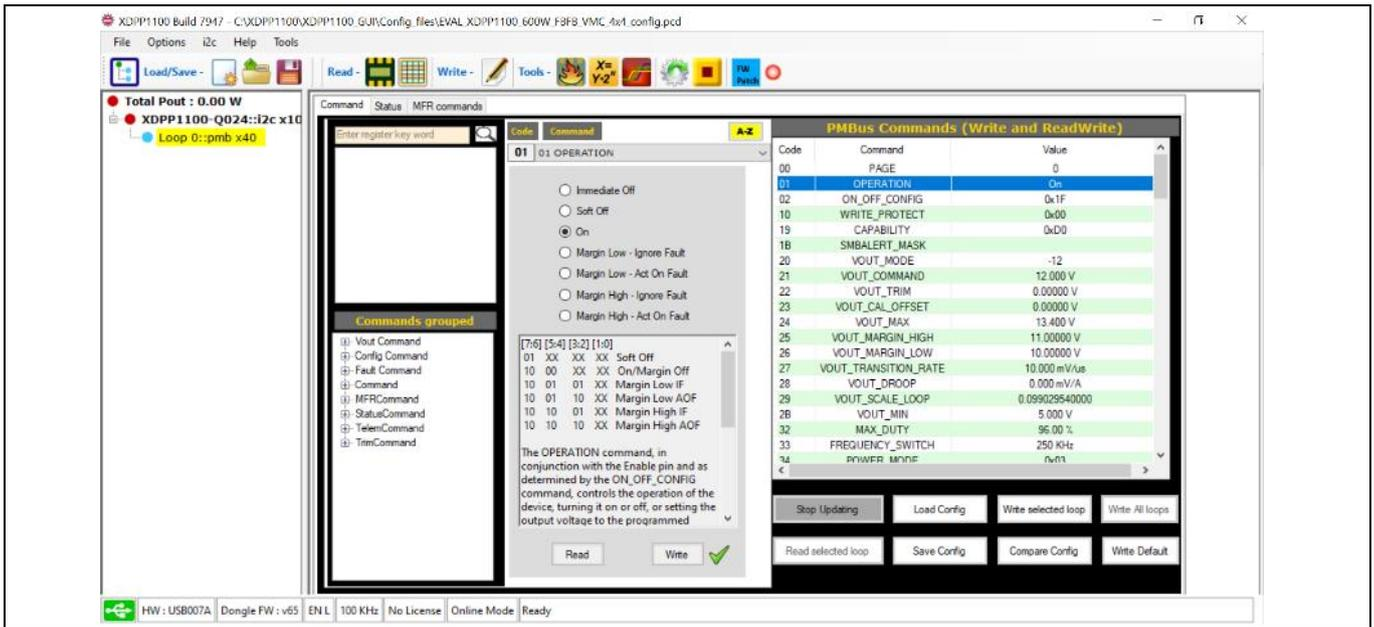

Figure 13 PMBus OPERATION command
- Select **On** and Click **Write** (green check shows writing the PMBus command was successful) (Figure 13)